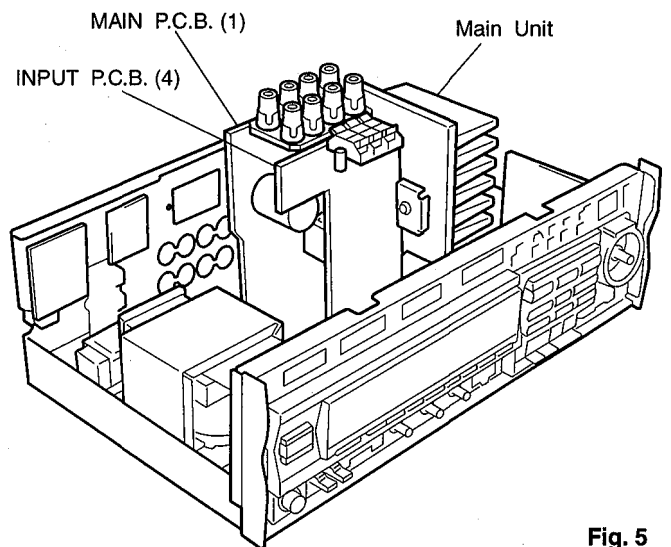

Fig. 5
- f. Place the Main Unit on its side as shown in Fig. 5.